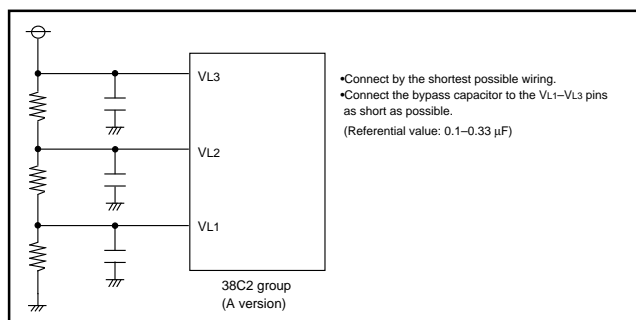

Fig. 9 Strengthening measure example of LCD drive power supply
(1) Power supply capacitor may be insufficient with the division resistance for LCD power supply, and the characteristic of the LCD panel. In this case, there is the method of connecting the bypass capacitor about 0.1–0.33 μF to VL1–VL3 pins. The example of a strengthening measure of the LCD drive power supply is shown in Figure 9.